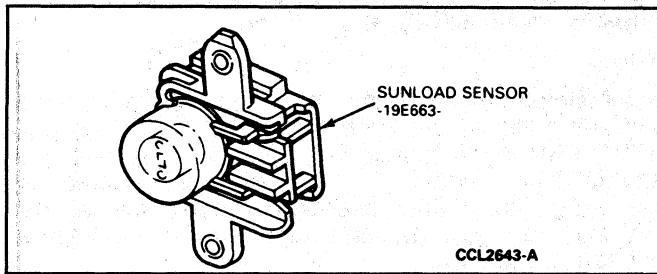

FIG. 7 Sunload Sensor
- **Sunload Sensor:** located in the LH radio speaker grille assembly. The sunload sensor contains a photovoltaic (sensitive to sunlight) diode (Fig. 7).